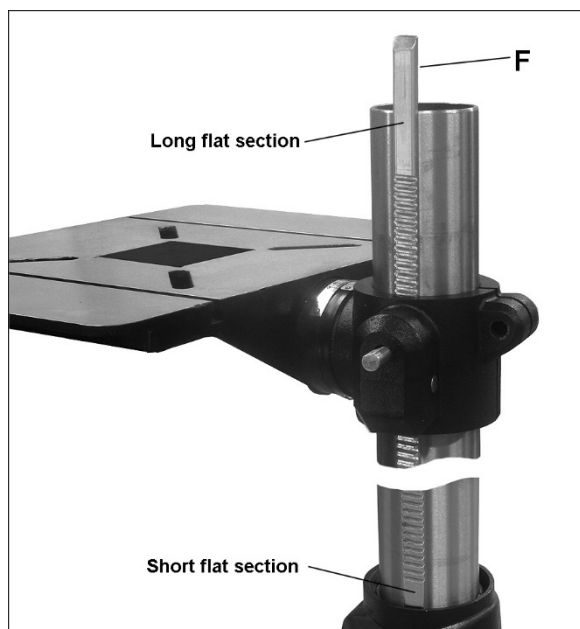

Figure 7
7. Position rack (F, *Figure 7*) into the slot in table bracket. The longer flat portion of the rack should be at the top, the short flat portion at the bottom. Mesh the rack teeth with the worm gear in the table bracket.
8. With the aid of a second person, hold the rack in the slot, while setting the table bracket over the top of the column. Then slide table bracket and rack together down the column until the lower end of the rack rests in the lip of the holder, as shown in *Figure 7*.